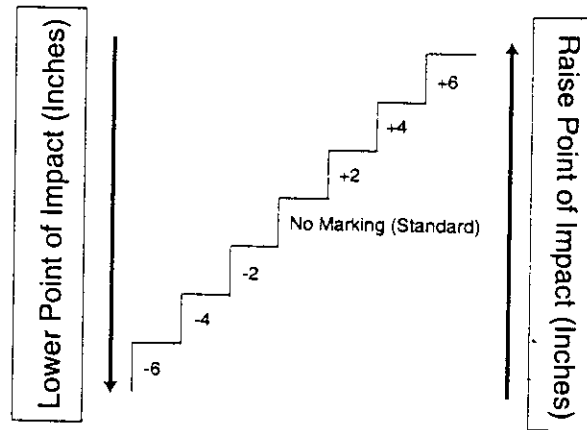

Figure 25
- f. Select a higher or lower rear sight from Figure 25 below.
Figure 25 shows that the rear sight marked -4 would lower the point of impact by 4 inches, or a total of 4 inches, from the standard unmarked rear sight removed from the pistol.